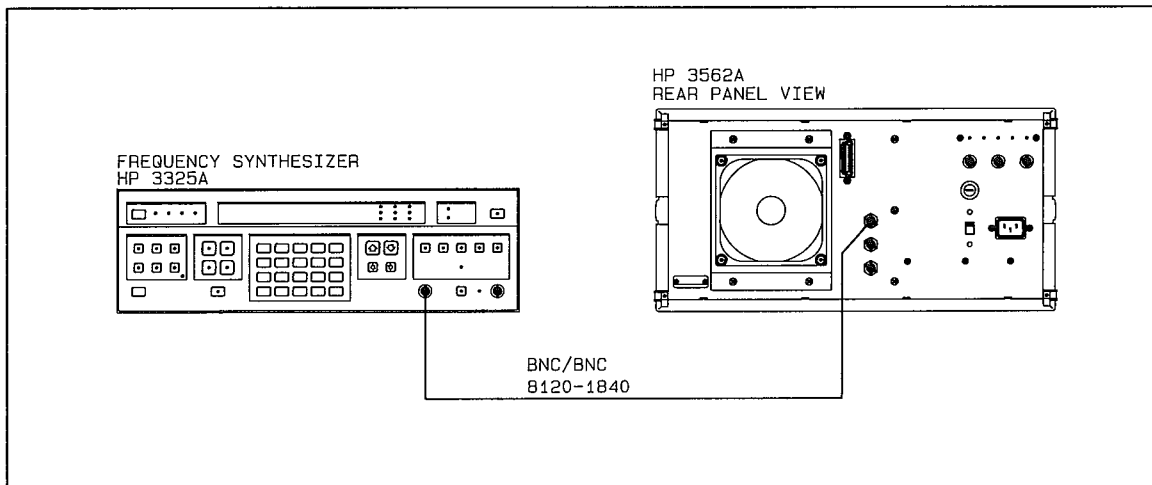

Figure 2-30 External Reference Test Setup
A. Connect the HP 3562A as shown in figure 2-30. Refer to "Initial Equipment Setup," paragraph 2-20, for unspecified parameters.